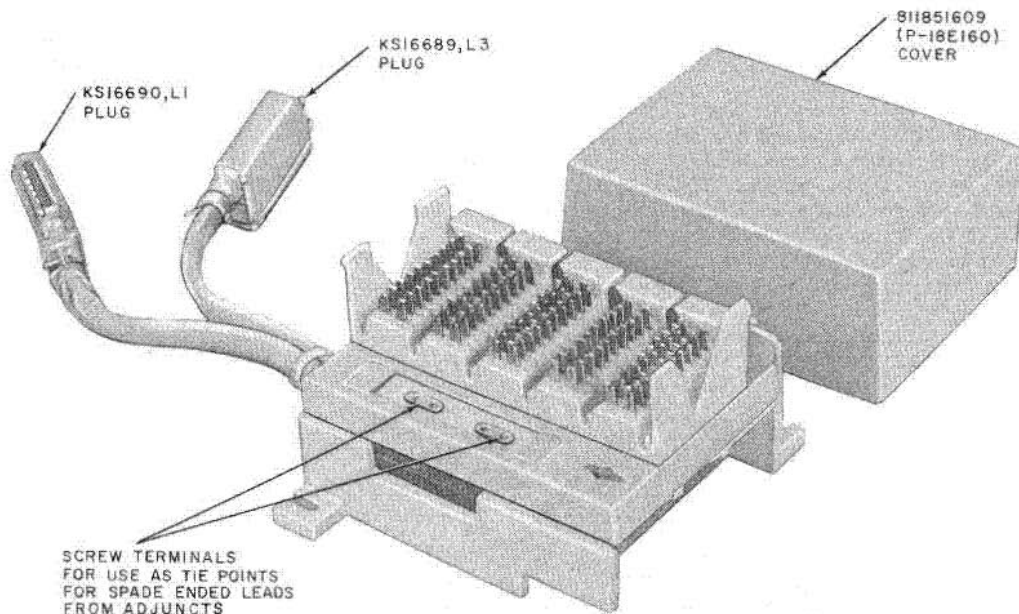

Fig. 3—66E8-25 Connecting Block
2.05 ♦The 66E8-25 connecting block (Fig. 3) is equipped with a molded plastic base and provides full access to the 50 conductors of the connector cable and mounting cord supplying a telephone set. The connecting block can also be used to gain access to the leads in one finger of larger connector cables and mounting cords such as those for CALL DIRECTORS®. Primary use of the 66E8-25 connecting block is with the 2A transmitter-receiver used to supply HFAI in the 1A1 or 1A2 Key Telephone System.♦